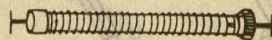

FIG. 2.4.9
9. Ask them to wind Nichrome wire of the required length over this tube. See that the wire rests in the grooves. Show the students how the wire is held in position by taking the end out of the small holes. Slip the aluminium rings on either end of the china clay tube such that they keep the ends of the wire pressed under them and they make contact with wire. This makes the element of the room heater. Fig. 2.4.9.